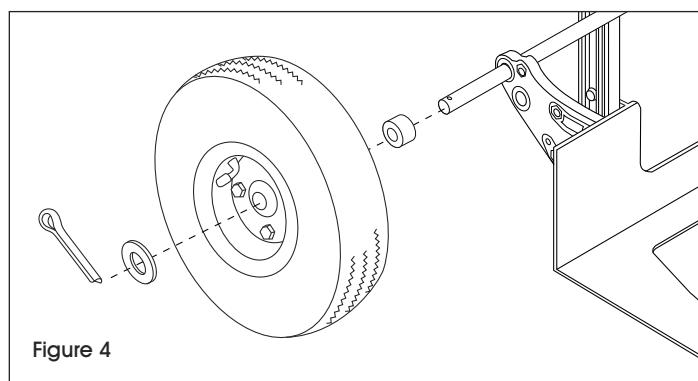

Figure 4
3. Slide a spacer onto each end of the axle. Slide a wheel onto each end of the axle. Slide a washer onto each end of the axle. (See Figure 4)
4. Insert a cotter pin through the holes in each end of the axle. Bend cotter pins using pliers to secure wheels. Wheels should spin freely. (See Figure 4)